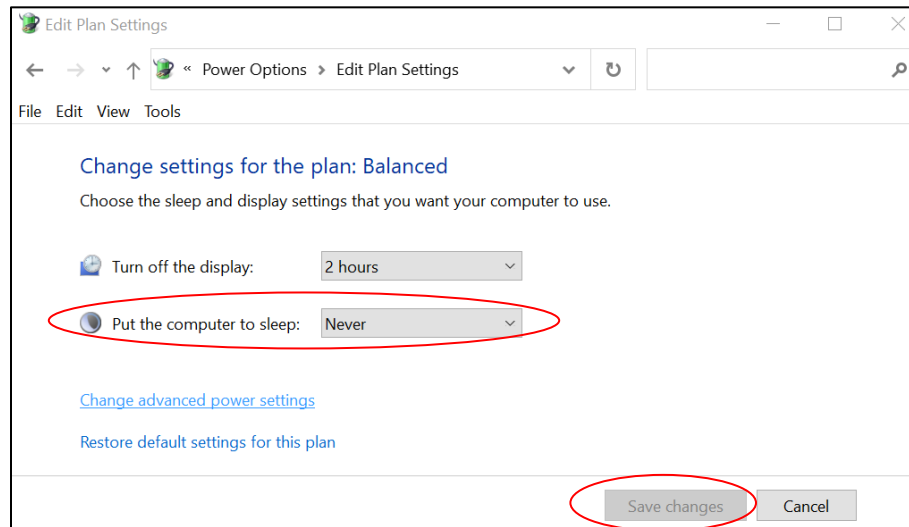

Figure 16: Put the Computer to Sleep Timer
8. Ensure **Put the computer to sleep** is set to **Never**. This activates the **Save changes** button. Click **Save changes**. Refer to Figure 16.